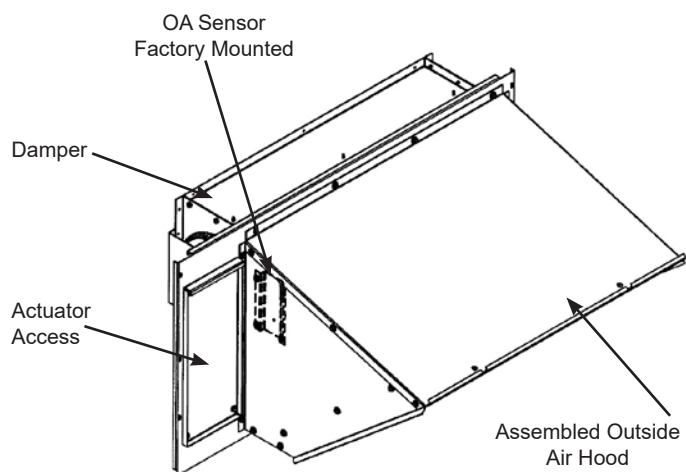
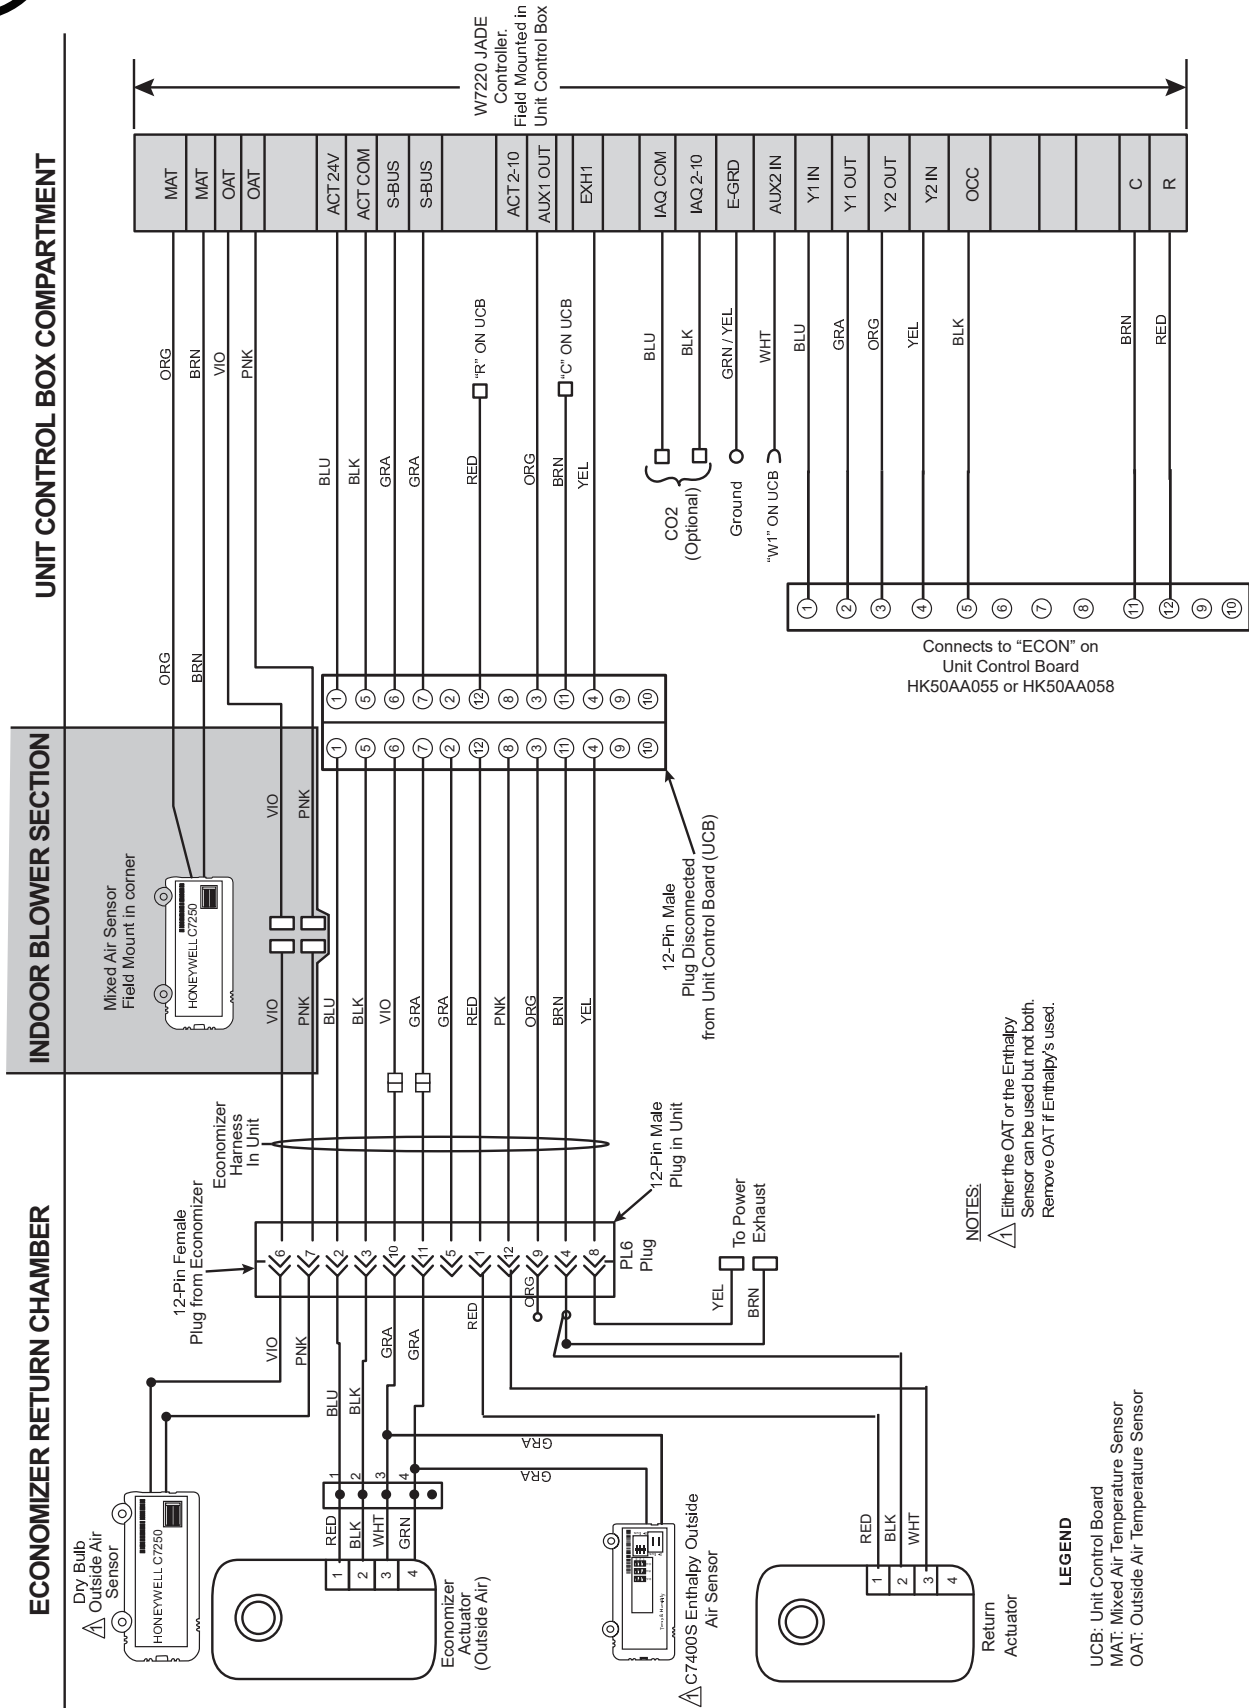

Fig. 1 - Outside Air Damper Assembly
Figure 25 – Typical Economizer Wiring Diagram for 1 or 2 Speed Units with UCB
Step 7: If an economizer with a dry bulb sensor will be operating with an enthalpy outside air sensor, remove the factory installed 9901-2021 (C7250) dry bulb sensor from the outside air hood of the economizer (see Figure 1), and install the accessory enthalpy sensor 9901-2022 (C7400) in the same location as the dry bulb sensor. Connect the (2) wire gray harness with plug from the economizer to the enthalpy sensor. See wiring diagram Figures 25 and 33. Refer to "9901-2022 Outside Air Enthalpy Sensor" section for more details on enthalpy settings
Step 8A: Wire the return damper actuator per wiring diagrams in instructions. Wire harness is provided and is attached to return actuator. See Figure 25.
Step 12: Wire the return damper actuator per wiring diagrams in instructions. Wire harness is provided and is attached to return actuator. See Figure 25.
Step 18: Connect the brown wire from the controller harness to the UCB. Refer to economizer wiring diagram Figure 25. The brown wire connects to “C”, on the UCB.
The (2) gray wires with a plug from the economizer harness in the return chamber plug directly into the 9901-2022 enthalpy sensor. See Figures 25 and 26 for wiring.
Refer to economizer wiring diagram Figures 25 and 26 and DCV instructions if demand control ventilation (CO2 sensor) is used. CO2 sensor will wire into the blue and black connections at the Jade controller as shown in Figures 25, 26 and 35. If a field installed CO2 sensor is connected to the economizer controller, a demand controlled ventilation strategy will operate automatically. As the CO2 level in the space increases above the setpoint (on the economizer controller), the minimum position of the dampers will be increased proportionally, until the Maximum Ventilation setting is reached. As the space CO2 level decreases because of the increase in fresh air, the outdoor damper will follow the higher demand condition from the DCV mode or from the free cooling mode.